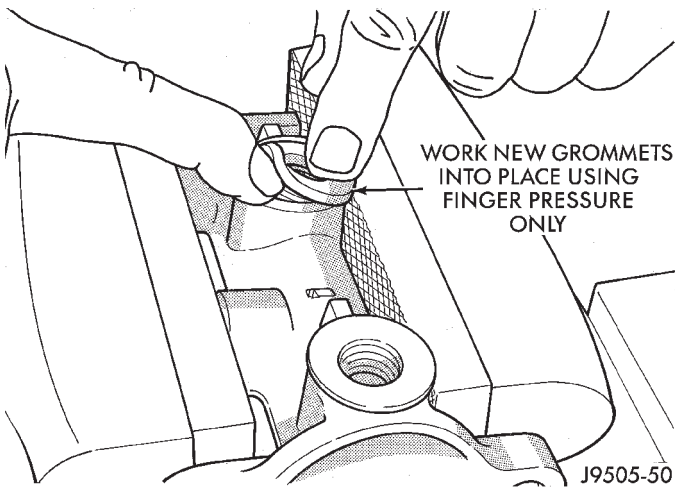

Fig. 45 Grommet Installation
(1) Lubricate new grommets with clean brake fluid and install new grommets in cylinder body (Fig. 45). Use finger pressure to install and seat grommets.